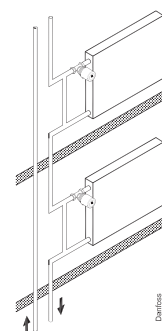

Fig. 2
1. A bypass must be established (figure 2). The size of the bypass pipe must normally be one dimension smaller than the dimension of the main pipe system.